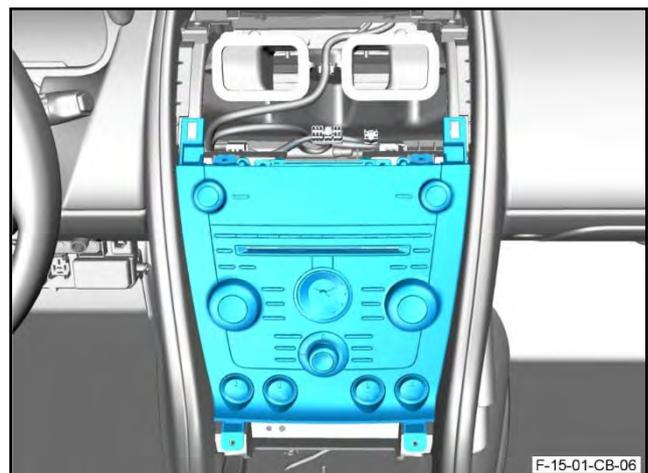

Figure 24
32. Remove the centre stack assembly (refer to Figure 24).